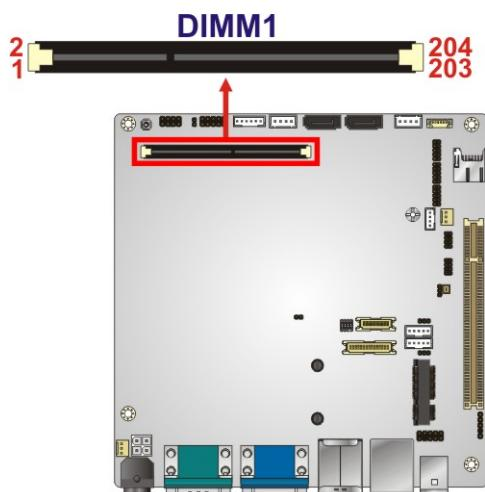

Figure 3-19: SO-DIMM Connector Location
**CN Location:** See Figure 3-19